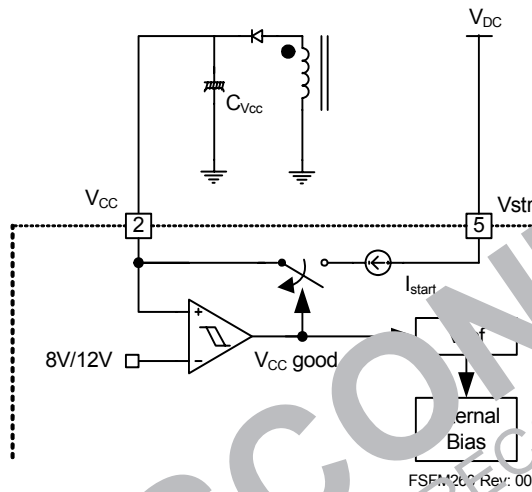

Figure 16. Internal Startup Circuit
1. Startup: In previous generations of ON Semiconductor Power Switches (FPS™), the V_{CC} pin had an external startup resistor to the DC input voltage line. In this generation, the startup resistor is replaced by an internal high-voltage current source. At startup, an internal high-voltage current source supplies the internal bias and charges the external capacitor (C_{VCC}) connected to the V_{CC} pin, as illustrated in Figure 16. When V_{CC} reaches 12V, the FSFM260/261/300 begins switching and the internal high-voltage current source is disabled. Then, the FSFM260/261/300 continues its normal switching operation and the power is supplied from the auxiliary transformer winding unless V_{CC} goes below the stop voltage of 8V.